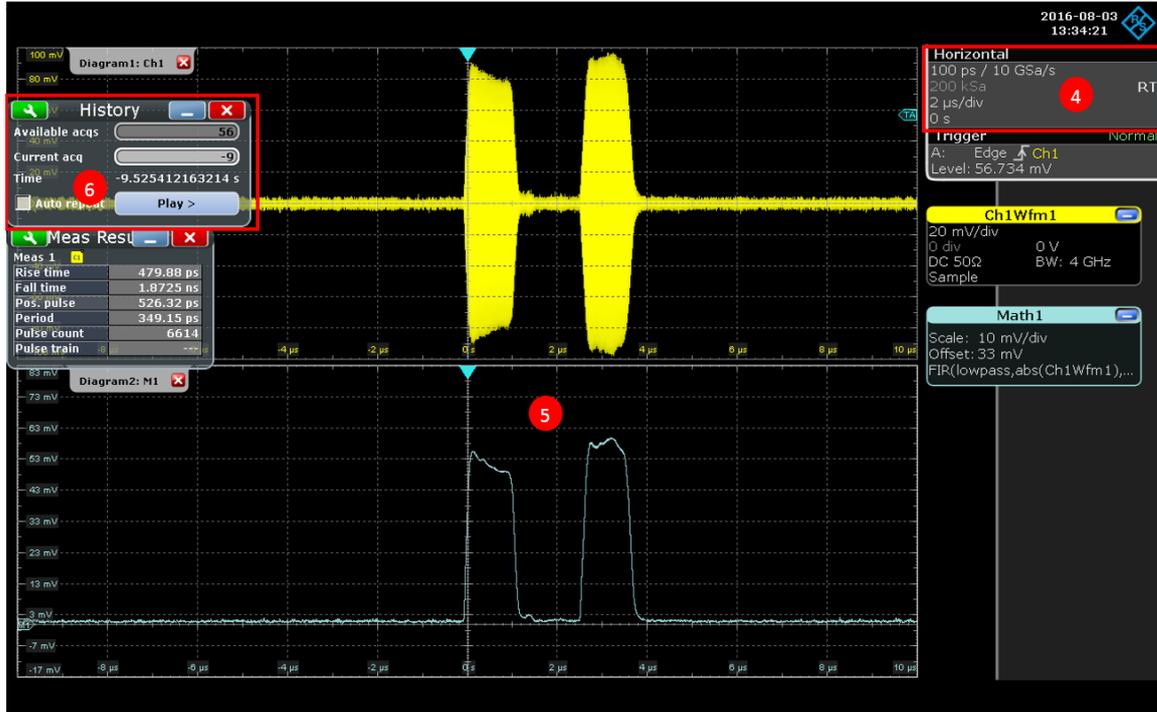

Figure 32 : ATC envelope results, the first pulse shows a magnitude droop
5. The diagram2 window, which was an FFT, is changed here to **[Math1]** as explained in section 3.2.3. One can see the pulse envelope by filtering out the carrier frequency. Adding the measurement results indicates the pulse properties per captured pulse sequence. The amplitude for the 1st pulse is  $\sim 53 \text{ mV}$  and for the 2nd pulse  $\sim 58 \text{ mV}$  which yields according to [9]  $-12.5 \text{ dBm}$  and  $-11.27 \text{ dBm}$ , see Figure 32.